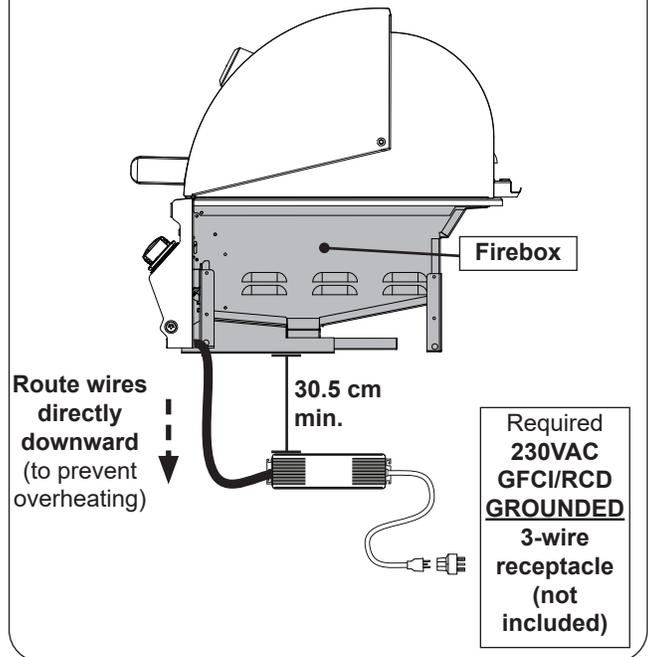

Fig. 23-1 Electrical installation
3. Connect the power cord (with adapter) to a **230VAC (6 AMP minimum) GFCI/RCD GROUNDED 3-wire receptacle** (see Fig. 23-1). The GFCI/RCD receptacle must be a WEATHER-PROOF IN-USE COVERED RECEPTACLE.